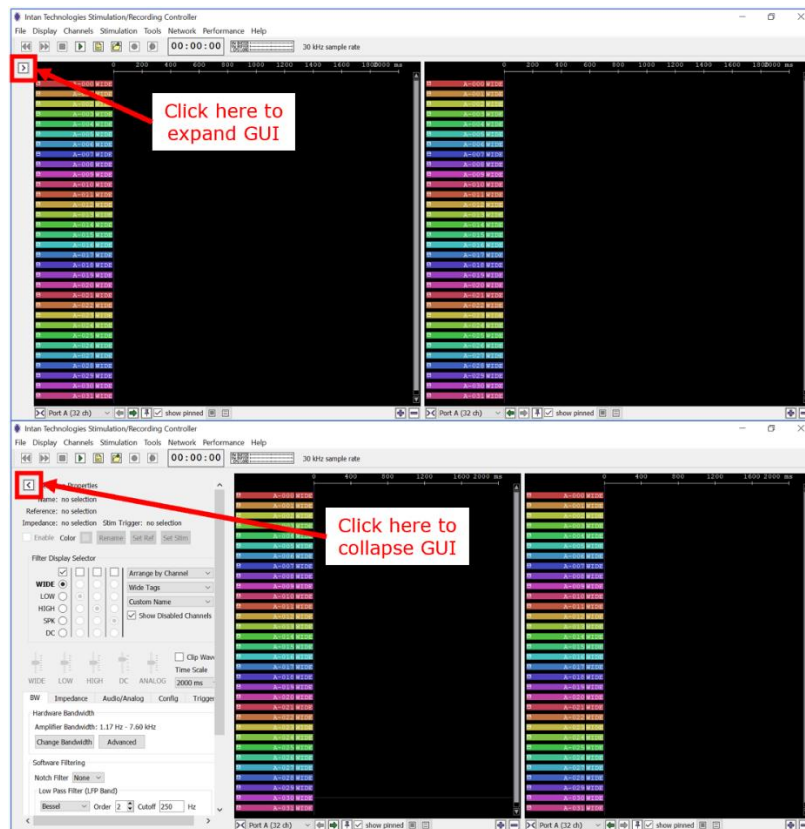

Fig. 30: GUI displaying the control panel.
- 7) To expand the GUI to display additional control parameters, click on the arrow on the top left () of the window to display the control panel ("Show Control Panel" button) which allows the user to change the parameters of the recordings. You can collapse the GUI in the same way by clicking on the same arrow (pointing in the opposite direction) in the expanded GUI (**Fig. 30**).